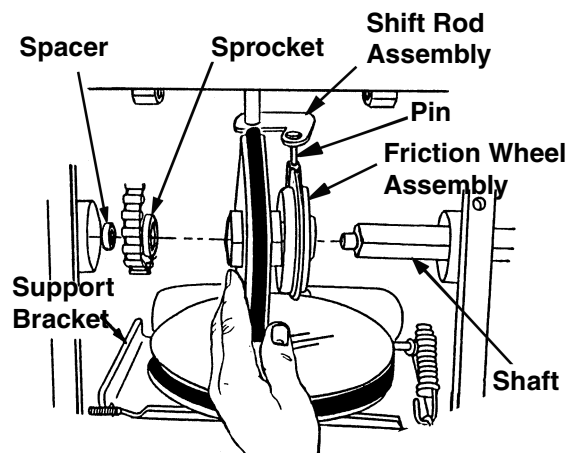

Figure 27
4. Using a 7/8" wrench to hold the shaft, loosen, but do not completely remove, the hex bolt and bell washer from the left end of the shaft. See Figure 27.
7. Sliding the shaft to the right, remove the spacer, sprocket, and friction wheel assembly from the shaft. See Figure 27.
10. Position the friction wheel assembly up onto the pin of the shift rod assembly, and slide the shaft through the friction wheel. See Figure 27.